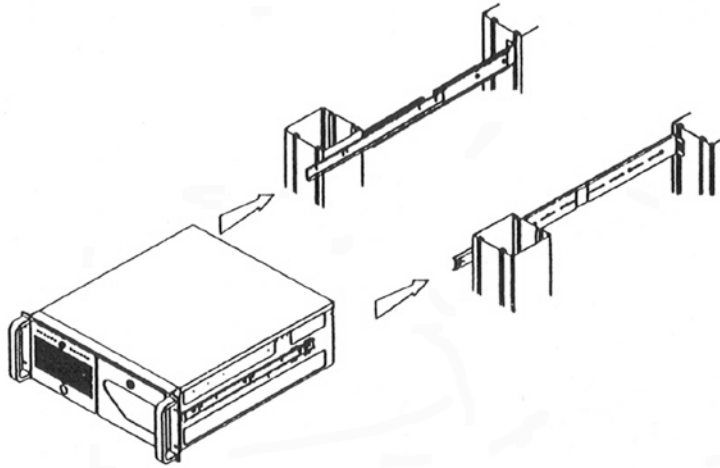

Figure 5 – Chassis Installation
16. Refer to figure 5 and slide the chassis into the rails attached to the frame of the rackmount enclosure. (You should have another person help you lift and slide the chassis into the enclosure.)